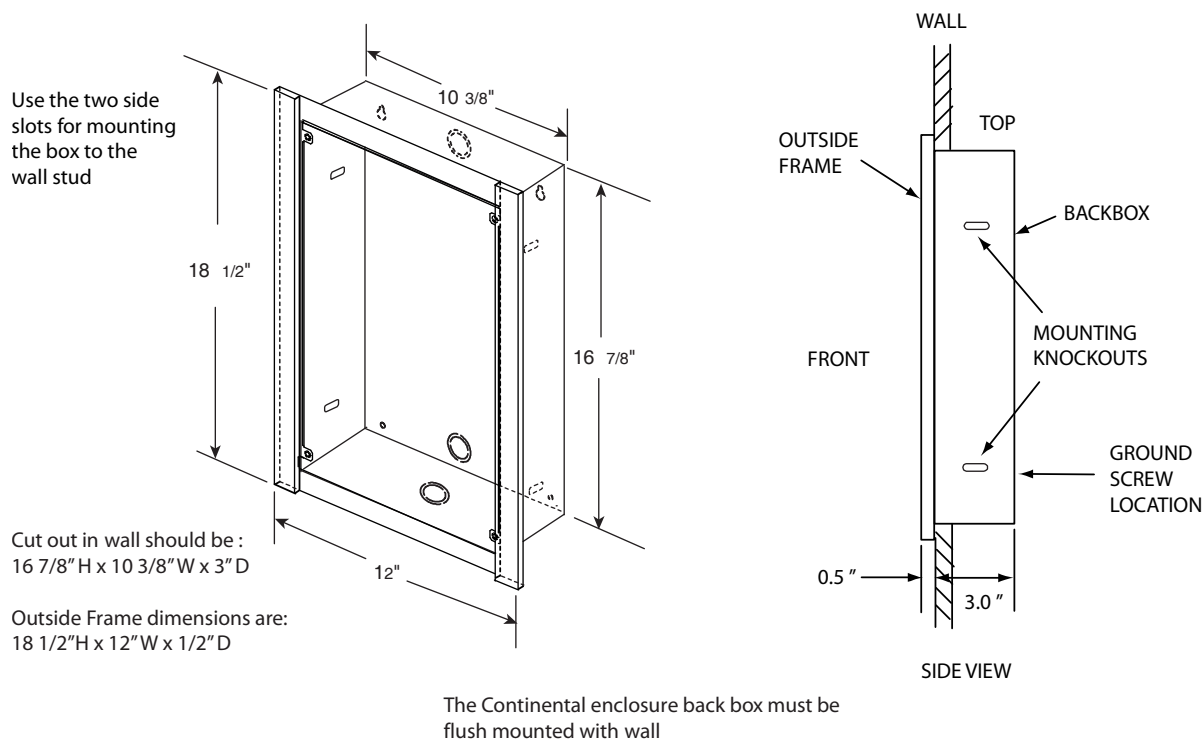

Figure 3. Continental Enclosure Flush Mount
The Continental enclosure flush mounts directly inside the wall to the wall stud as shown in Figure 3. Mount the back box flush with the wall and right-side up (the ground screw location is at the bottom).
4. Insert the enclosure into the wall cutout and using the enclosure as a template mark the top mounting hole location as shown in the side view in Figure 3. Ensure that at least one side is beside a wall stud.